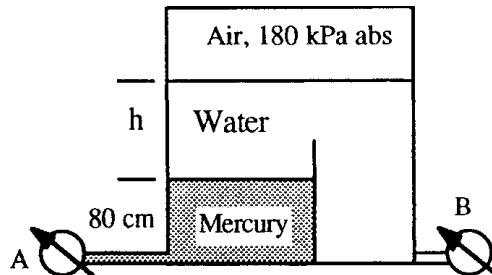

Fig. P2.21
**2.21** In Fig. P2.21 all fluids are at 20°C. Gage A reads 350 kPa absolute. Determine (a) the height h in cm; and (b) the reading of gage B in kPa absolute.